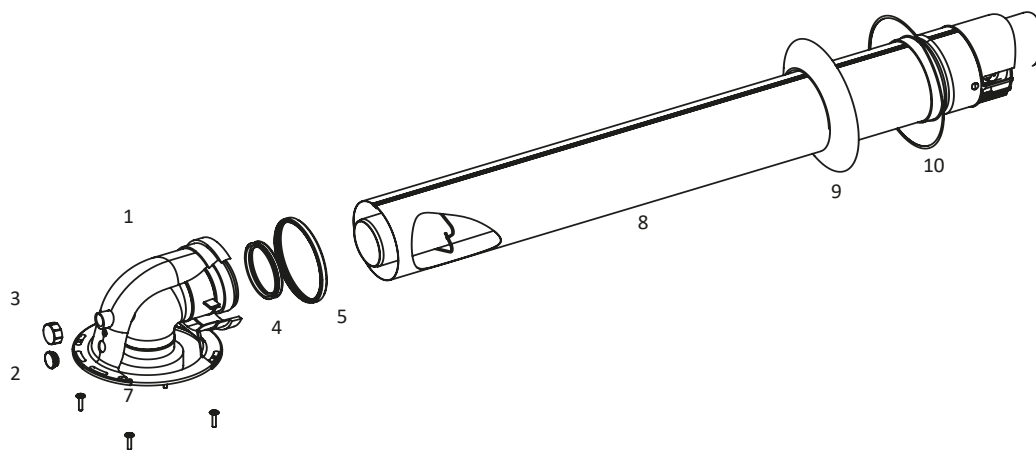

Figure 6
- The hermetic flue set is delivered in a carton box separate from the unit. The standard hermetic flue set (\varnothing 60/100 or \varnothing 80/125) consists of the following components (Figure 6).